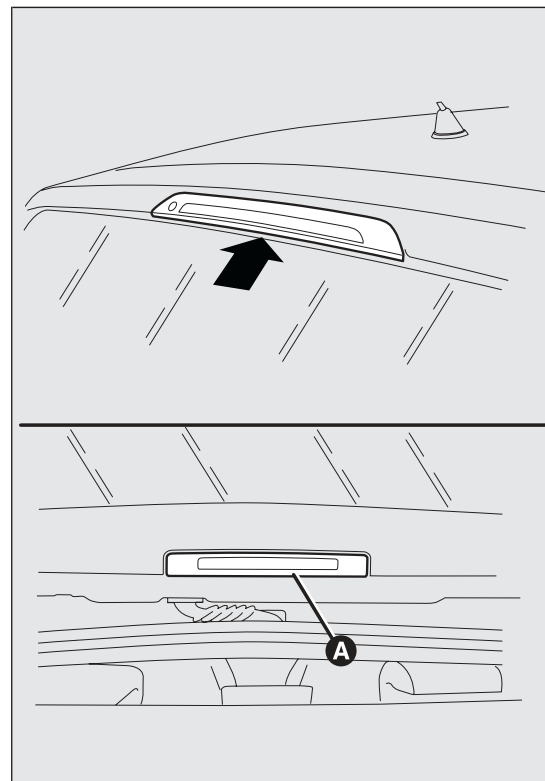

fig. 170
- ☐ remove the cover A fig. 170;
- ☐ refit the cover A fig. 170 and close the luggage compartment.